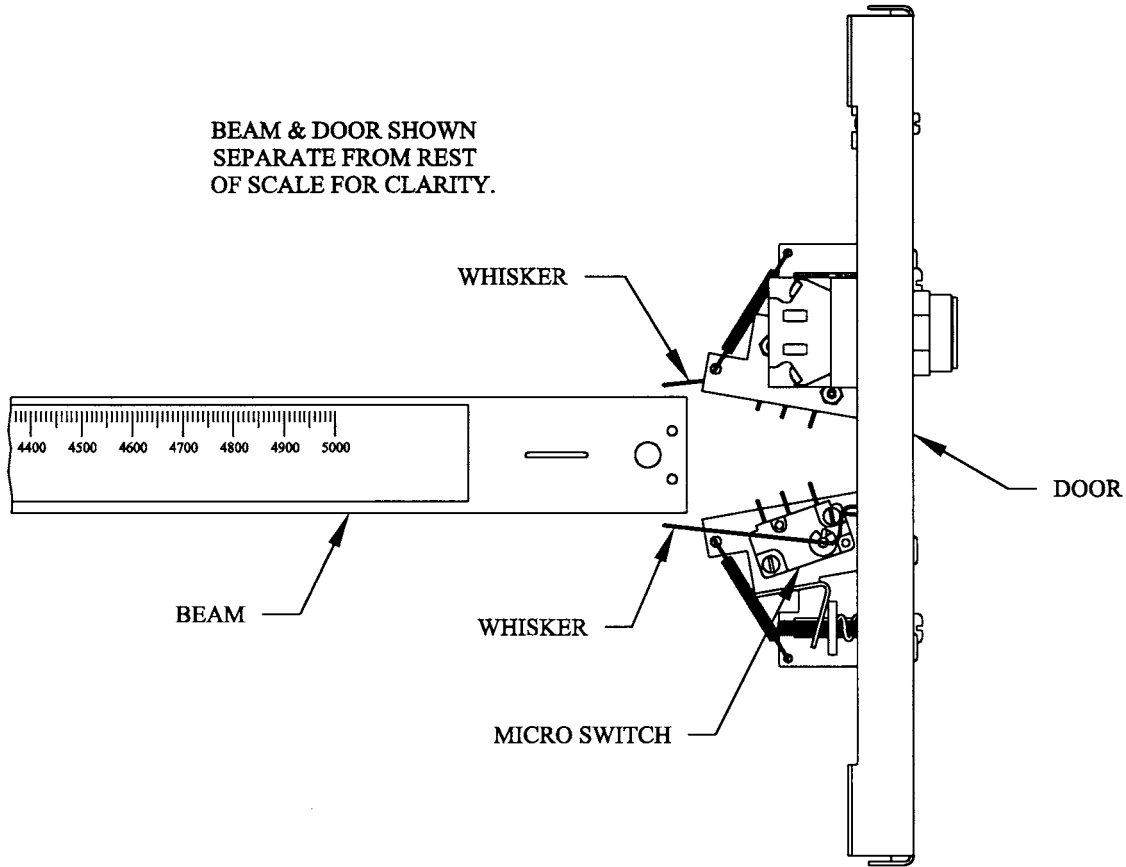
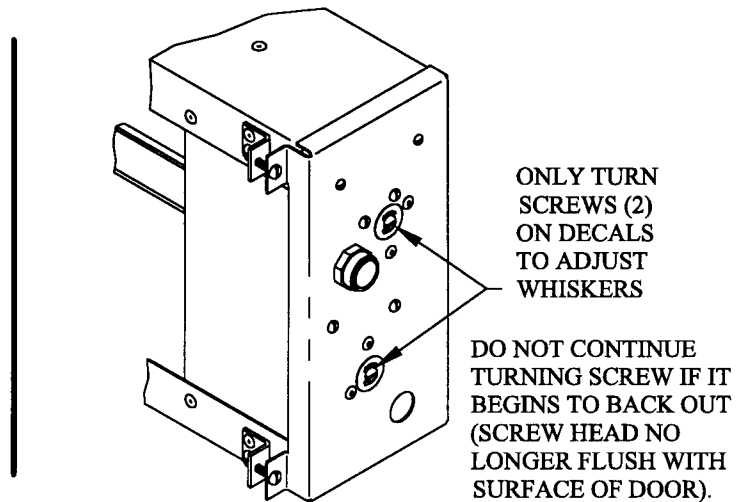
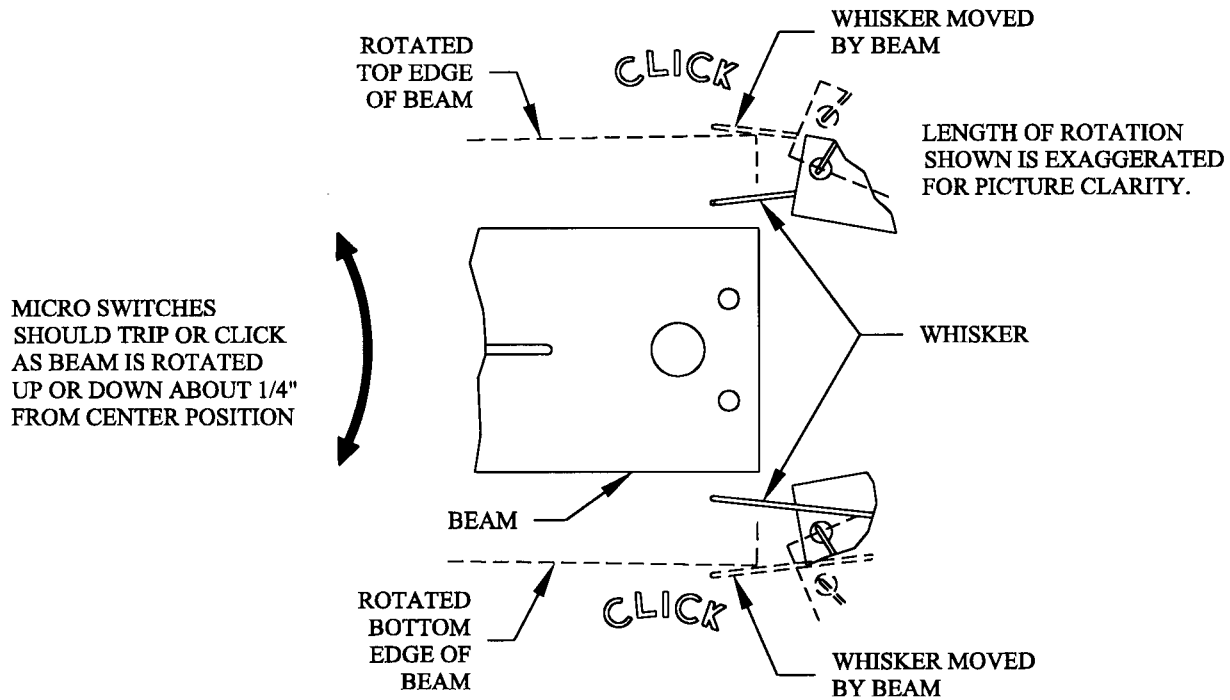
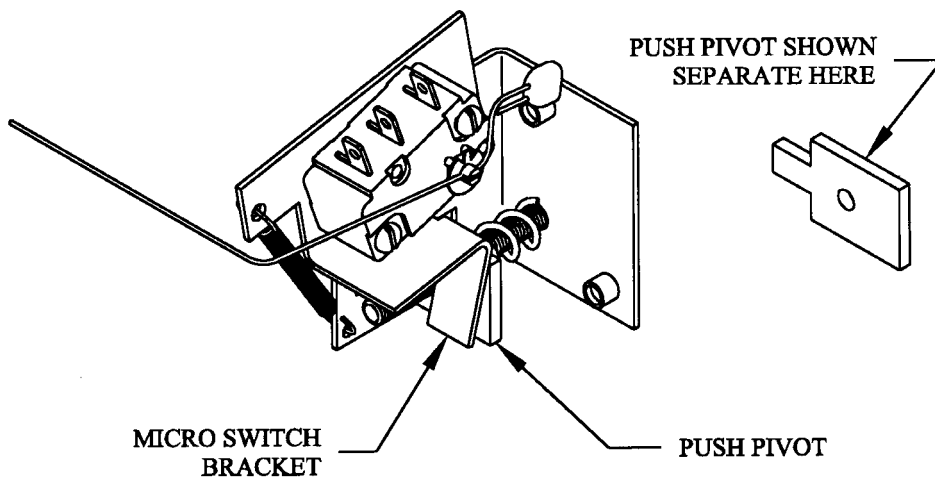

FIG. 1A
FIG. 1C
FIG. 2A
FIG. 2B
STEP 1. Check the scale installation. All parts should be free moving, square and level. Inspect beam, whiskers & micro switches; they can be seen through opening in trig loop. See Fig. 1A & 1B. If adjustment is necessary (see step 2) turn screws on door to move whiskers. Only the screws (2) on the decals will work. See Fig. 1C.
STEP 2. Check the adjustment of the micro switches. They should be set so that they trip when the beam moves either up or down approximately 1/4" from its center position. See Fig. 2A. If fill system shuts off before desired weight is in bin, turn bottom screw (with decal) counter-clockwise to correct or clockwise if too much weight goes into bin (refer back to Fig. 1C for right screws). If feed system shuts off before desired weight is distributed, turn top screw (with decal) counter-clockwise to correct or clockwise if too much feed is getting distributed. It may be possible (but unlikely) that the screw does not move the whiskers if the push pivot isn't touching the micro switch bracket. In this case, turn the screw counterclockwise. The push pivot will eventually engage the micro switch bracket and the whisker will start moving. See Fig 2B.
- 9) Check the micro switches, if both whiskers are touching the beam at the same time they need to be adjusted, See Fig. 2A (Calibration section – pages 18-22).